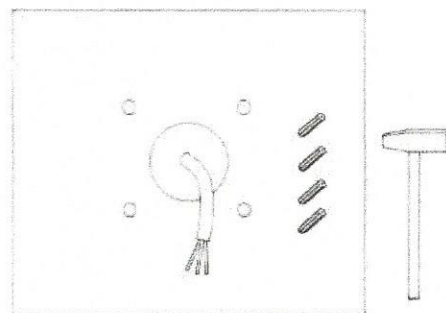

Figure 2
- 2.Fix rubber plugs into holes.(Figure 2)